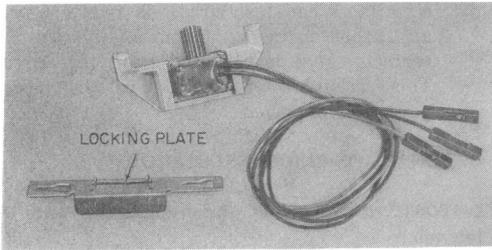

Fig. 7—D-180812 Kit of Parts
- (b) Depress buttons of the memory locations recorded in Step (3) and verify that the correct signal is returned from the test circuit each time.
**3.13** Install the D-180812 Kit of Parts (Fig. 7) as follows.